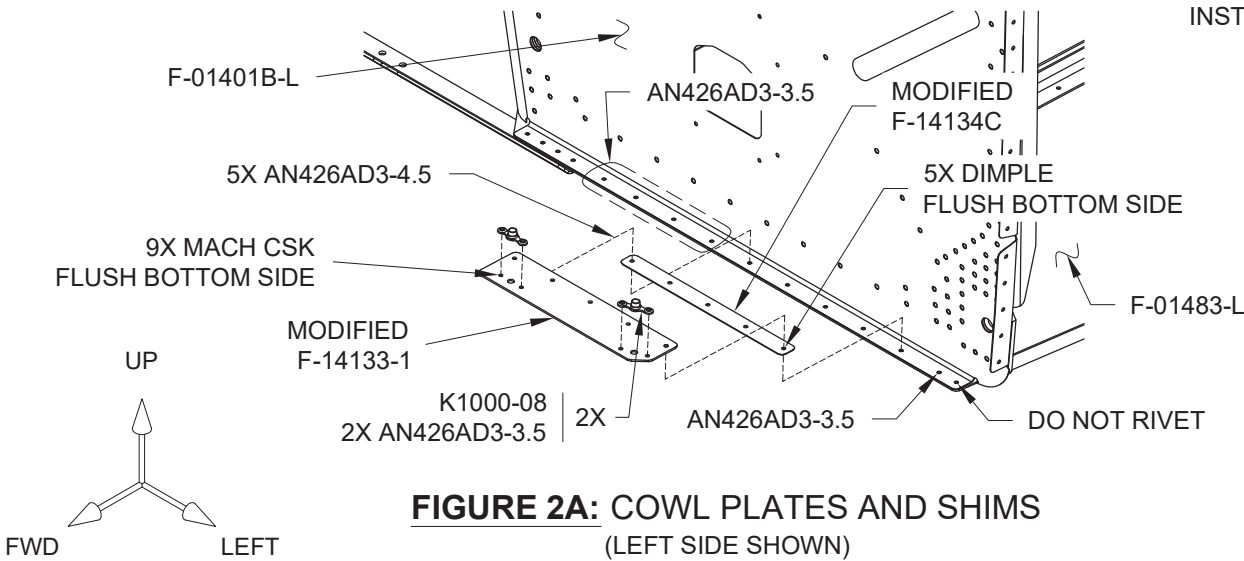

FIGURE 2A: COWL PLATES AND SHIMS
Step 3A: Dimple the modified F-14134C as shown in Figure 2A.
Step 4A: Machine countersink the #40 holes in the modified F-14133-1 as shown in Figure 2A.
Step 5A: Rivet the nutplates to the modified F-14133-1, then cleco and rivet the modified F-14134C and F-14133-1 to the F-01401B-L & -R Firewall Sides and F-01483-L & -R Forward Bottom Skins as shown in Figure 2A.
Rivet the forward bottom skins to the firewall sides as shown in Figure 2A. **DO NOT** rivet the outboard hole on each side.